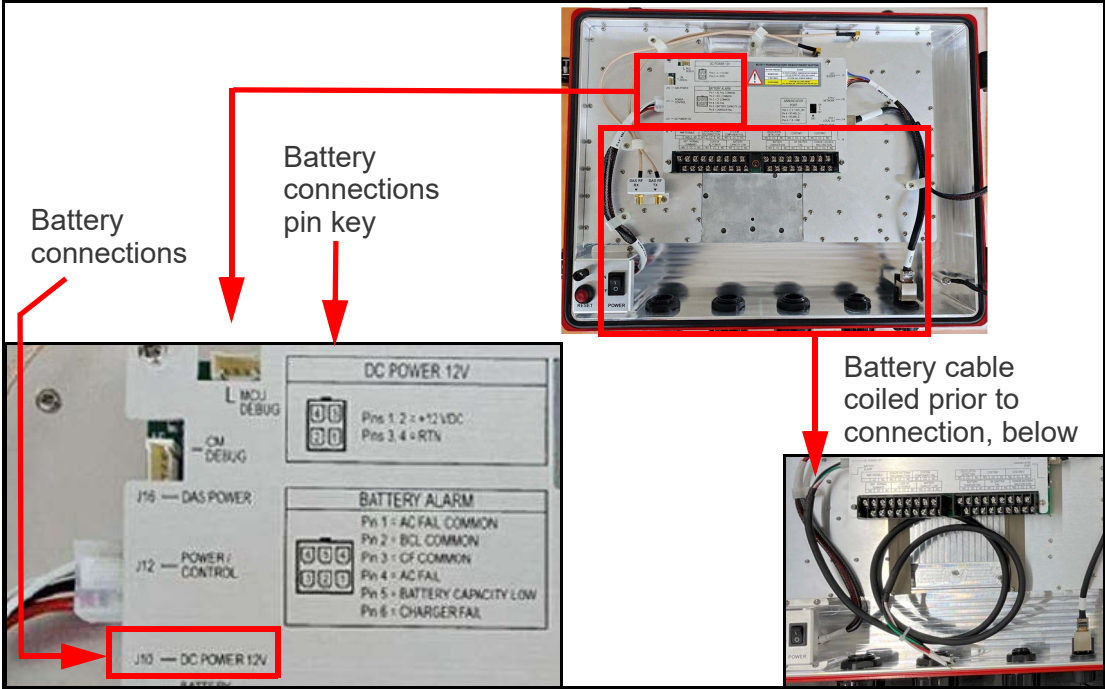

Figure 4-11 Battery cable connections to signal booster
5. Connect the 4-pin Molex connector on the battery cable to the BDA's four-pin DC POWER 12V connector. Connect the six-pin Molex connector to the BDA BATTERY ALARM terminals. See Figure 4-11 and use the connector information in Table 4-2 below.